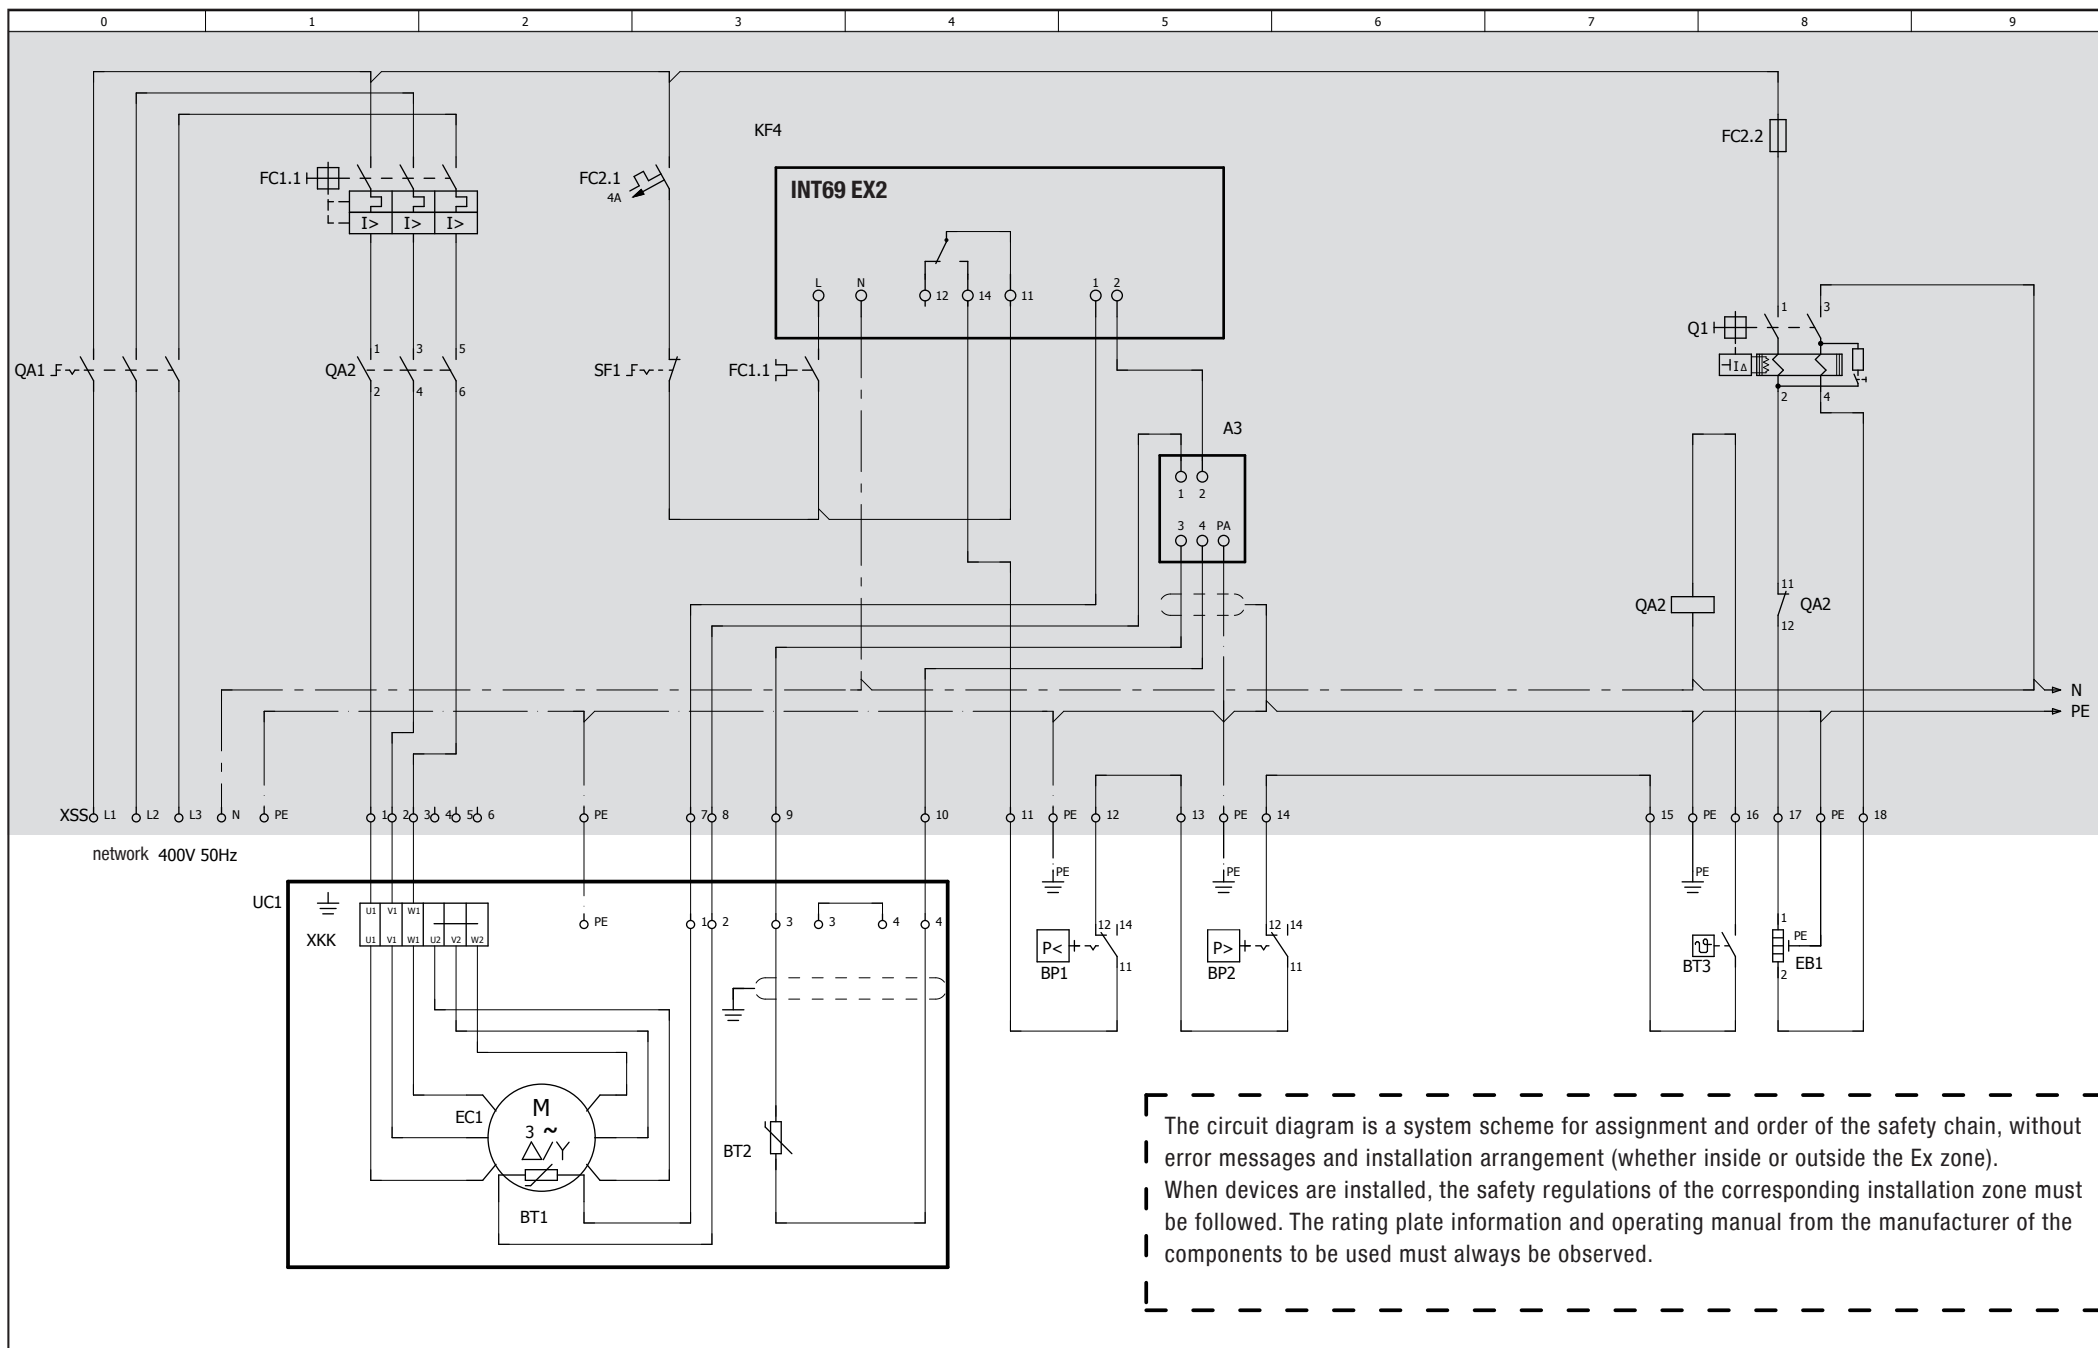

Fig. 19
- Connect the compressor motor according to the circuit diagram (s. fig. 19 or sticker inside the terminal box). Comply with local safety regulations for electrical work, safety standards (within the EU: EN 60204, EN 60335 among others) and regulations for setting up electrical systems in explosion-endangered areas (within the EU: IEC/ EN 60079-14 among others).
Wire the PTC temperature sensor of the compressor motor, heat protection thermostats of the cylinder head, pressure and temperature monitoring of the system according to the wiring diagram (fig. 19). Pay attention for connecting the PTC sensor.